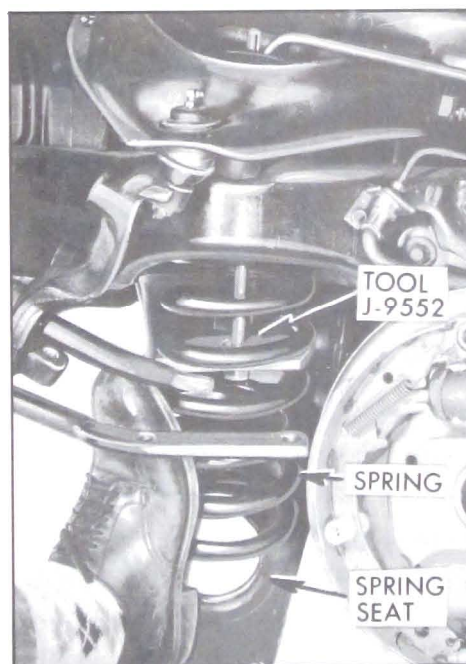

Figure 7-28—Pushing Spring onto Lower Control Arm Seat
6. Force the spring on its seat in the lower control arm as shown in Figure 7-28. Remove tool.